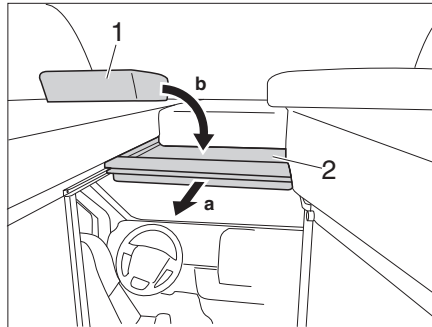

Fig. 55 Driver's cabin partition
- Pull the bed foundation (Fig. 55,2) to the front at the handle.
- Place the cushion (Fig. 55,1) onto the bed foundation.
- Lay the cushion (Fig. 55,1) to the side
- Slide the bed foundation (Fig. 55,2) to the rear.